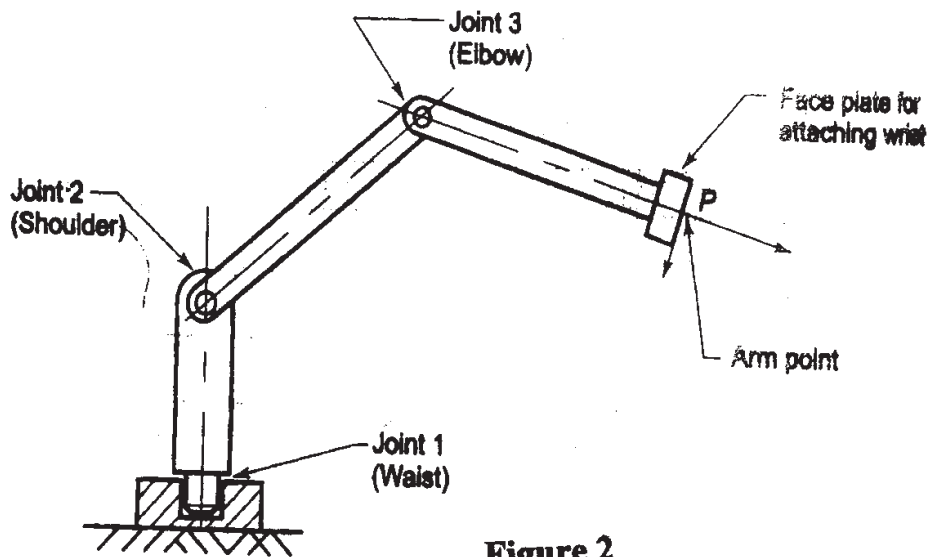

Figure 2
- Q3) For the three degree freedom, articulated arm (as shown in figure 2) using D-H algorithm find transformation matrix 'T'.** [16]